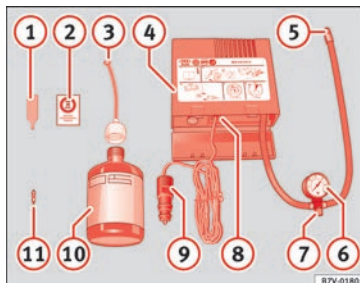

Fig. 97 Standard representation: contents of the anti-puncture kit.
» **Fig. 97:**
Screw the inflator tube » **Fig. 97** ⑤ again and check the pressure on the gauge ⑥.